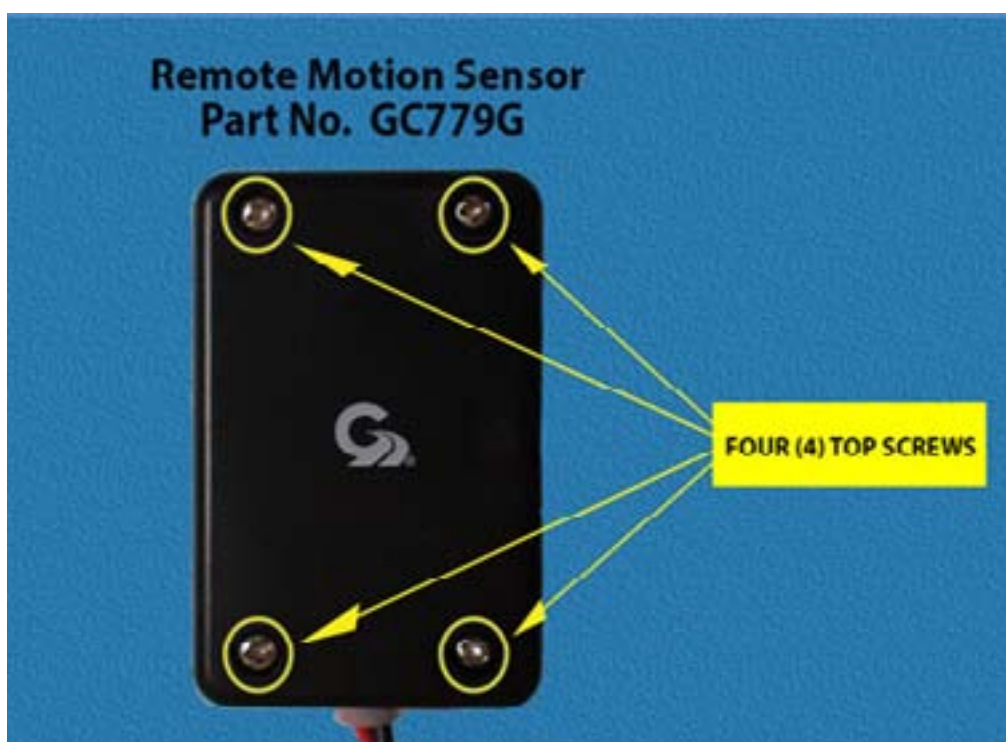

FIGURE 4
Open the Remote Motion Sensor by removing the 4 screws (See Figure 4).
9. When completed, secure the Remote Motion Sensor lid to the base using the four (4) screws provided (See Figure 4).
6. When completed, secure the Remote Motion Sensor lid to the base using the four (4) screws provided. (See Figure 4).